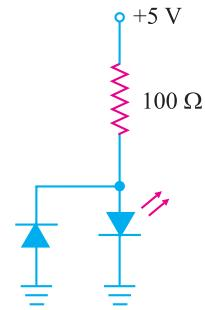

Fig. 7.6
**Protecting LED against reverse bias.** The LEDs have low reverse voltage ratings. For example, a typical LED may have a maximum reverse voltage rating of 3V. This means that if a reverse voltage greater than 3 V is applied to the LED, the LED may be destroyed. Therefore, one must be careful not to use LEDs with a high level of reverse bias. One way to protect a LED is to connect a rectifier diode in parallel with LED as shown in Fig. 7.6. If reverse voltage greater than the reverse voltage rating of LED is accidentally applied, the rectifier diode will be turned on. This protects the LED from damage.